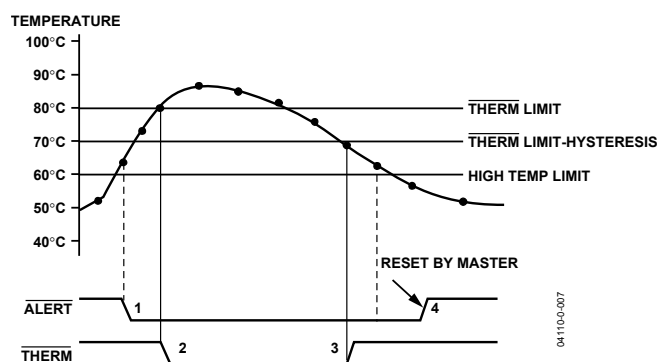

Figure 19. Operation of the  $\overline{\text{ALERT}}$  and  $\overline{\text{THERM}}$  Interrupts
Figure 19 shows how the  $\overline{\text{THERM}}$  and  $\overline{\text{ALERT}}$  outputs operate. A user may wish to use the  $\overline{\text{ALERT}}$  output as a  $\overline{\text{SMBALERT}}$  to signal to the host via the SMBus that the temperature has risen. The user could use the  $\overline{\text{THERM}}$  output to turn on a fan to cool the system, if the temperature continues to increase. This method would ensure that there is a fail-safe mechanism to cool the system, without the need for host intervention.
3. The  $\overline{\text{THERM}}$  output deasserts (goes high) when the temperature falls to  $\overline{\text{THERM}}$  limit minus hysteresis. In Figure 19, the default hysteresis value of  $10^{\circ}\text{C}$  is shown.